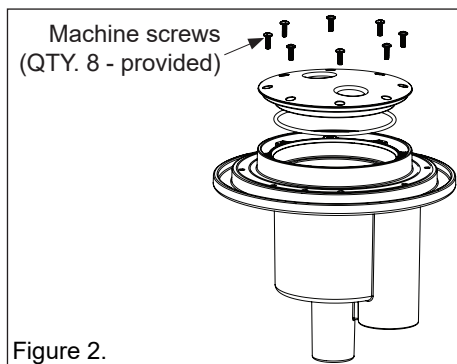

Figure 2.
1. Install the O-ring on the gunite cover and install the gunite cover over the top of the niche using the supplied machine screws, see Figure 2. This will protect the light cavity of the niche during installation. Secure the gunite cover with the eight 8-32 x 1/2-inch machine screws (provided), see Figure 2. Using a No. 2 Philips head screwdriver, tighten each retaining screw to 10 (minimum) - 15 (maximum) in-lbs to secure the gunite cover on the niche. **DO NOT OVER TIGHTEN THE SCREWS. DO NOT ASSEMBLE WITH POWER TOOLS.** Over tightening or using a motorized screwdriver on the gunite cover screws can over torque the screw threads and damage the niche housing and/or gunite cover.
1. Install the O-ring on the gunite cover and install the gunite cover over the top of the niche using the supplied machine screws. This will protect the light cavity of the niche during installation. Secure the gunite cover with the eight 8-32 x 1/2-inch machine screws (provided), see Figure 2 on page 6. Using a No. 2 Philips head screwdriver, tighten each retaining screw to 10 (minimum) - 15 (maximum) in-lbs to secure the gunite cover on the niche. **DO NOT OVER TIGHTEN THE SCREWS. DO NOT ASSEMBLE WITH POWER TOOLS.** Over tightening or using a motorized screwdriver on the gunite cover can over torque the screw threads and damage the niche housing and/or gunite cover.